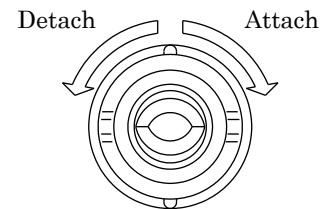

Fig. 6. Turning direction
- (1) Looking at the nozzle from the orifice side, turn the nozzle tip about 90° to the left (Fig. 6), and pull it off the ball adaptor.
- (2) Align the guide of the nozzle tip with the groove in the ball adaptor, push it in, and turn the nozzle tip to the right (Fig. 6) about 90° until it clicks.